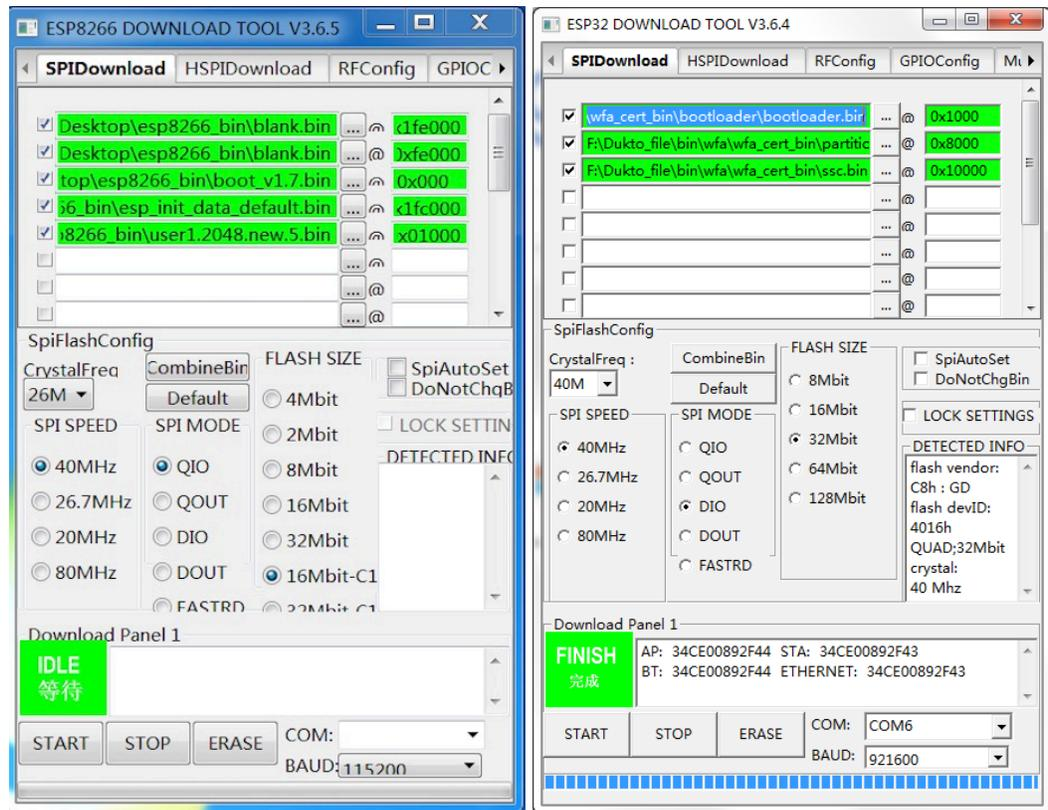

Figure 3-5. Flash Download Tool
6. After the download process finished, the status column will show **"FINISH"**. Please see figure 3-5 for the flash addresses and settings of ESP8266 and ESP32.